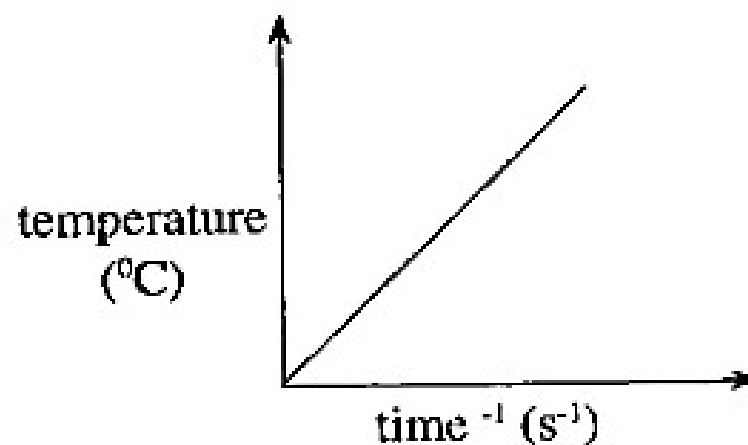

Fig 11.5b
- Figure 11.5b shows that the rate of the reaction increases with increase in temperature.